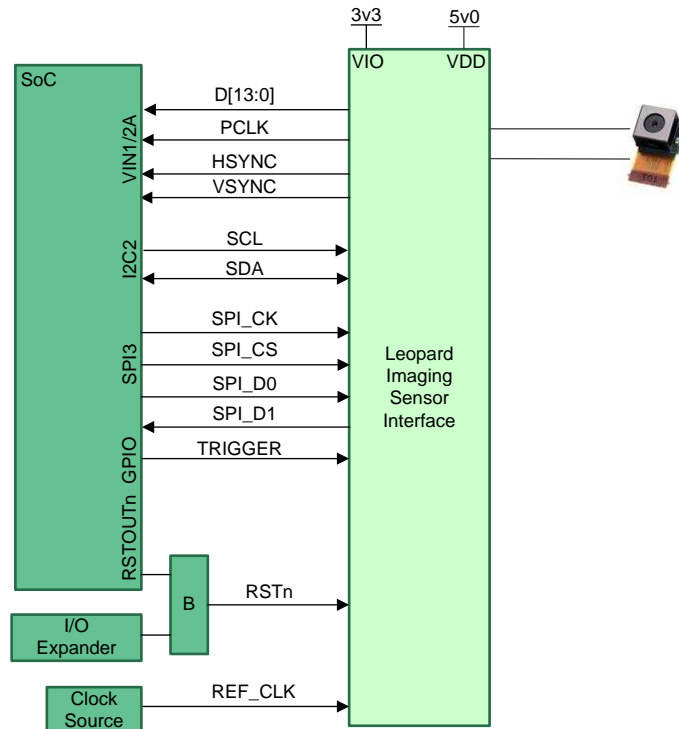

Figure 3-26. Leopard Imaging Diagram
The EVM includes a connector for interfacing with the camera modules from Leopard Imaging (LI). Figure 3-26 shows the diagram of the implementation. Either VIN1A or VIN2A can be used, depending on the board settings. An optional reference clock is provided, but not supported by default.